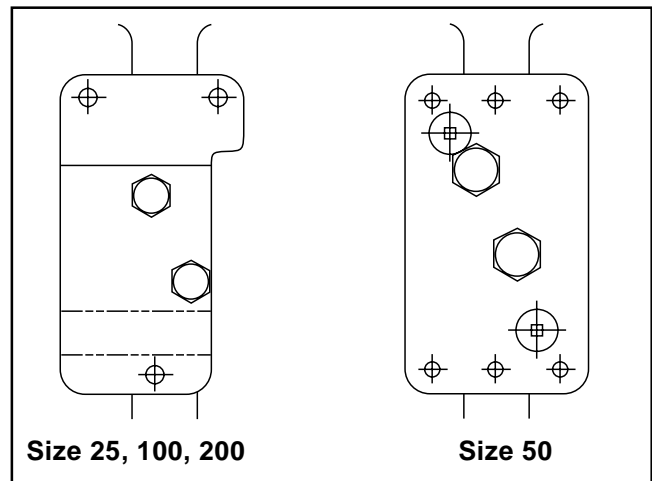

Figure 2: Positioner Mounting Bracket
2. Mount positioner bracket to the yoke leg which has the stroke indicator plate attached. (See Figure 2.)
8. Using three screws, mount the positioner to the brackets as shown in Figure 2.